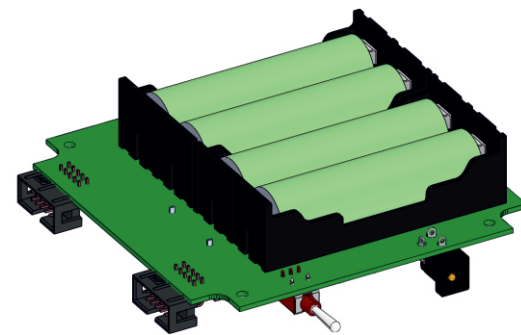

Fig. 3: Mounting a rechargeable battery
2) Install batteries in dedicated seats of the PSS board. IMPORTANT: observe battery poles when mounting (Fig. 3):